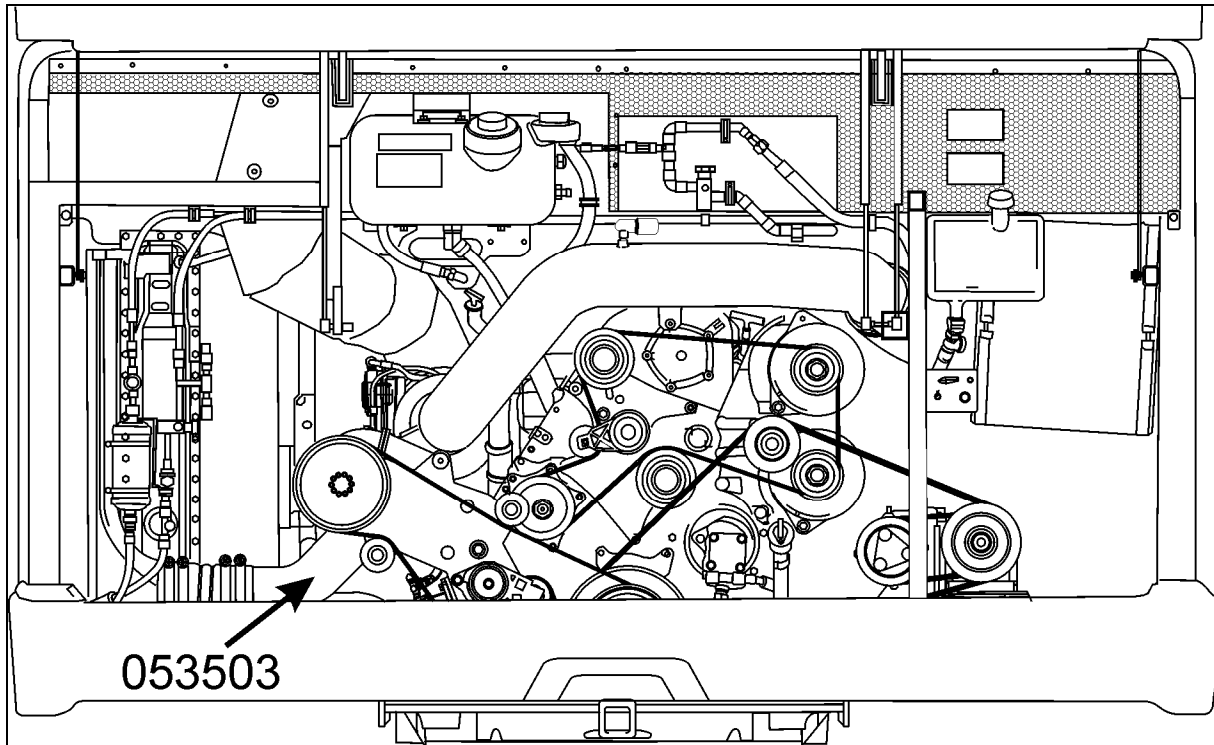

FIGURE 1: ENGINE COMPARTMENT
3. Locate connecting pipe then untighten the constant-torque hose clamps fixing the connecting pipe (Refer to figures 1 and 2).